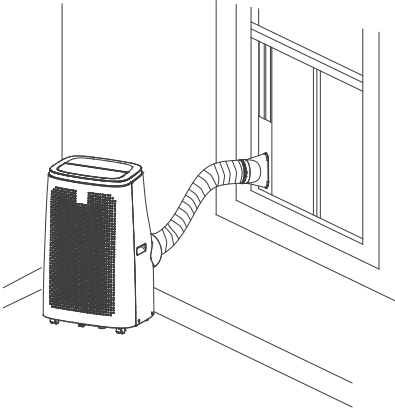
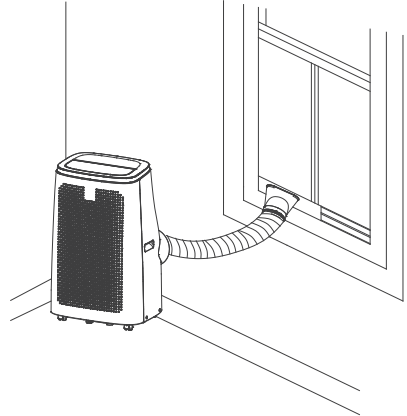

Figure 5
Figure 6
- Elongate the exhaust pipe and snap the flat end of the exhaust pipe joints into the hole of the window sealing plate assembly (as shown in Fig.5 and Fig.6)